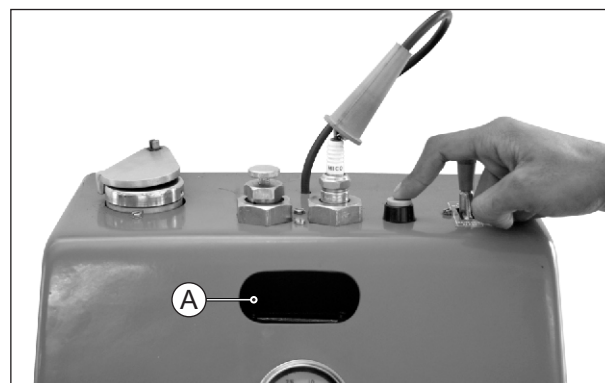

Fig. 2.42
- Now, press the spark testing button of the machine and look for strong, blue continuous spark through the window (A) of the machine. (Fig. 2.42)